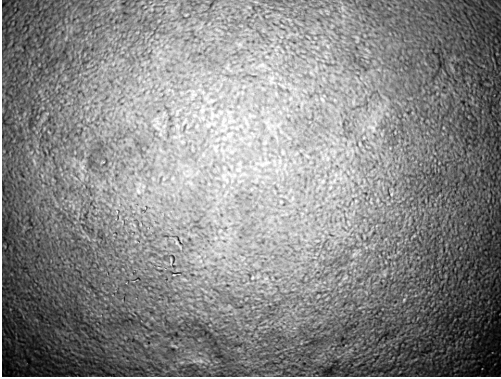

Figure 2. SAEC morphology (4X) just before airlift; 100% confluence in S-ALI™ growth medium
**NOTE:** Check morphology and confluence daily. Allow the cells to maintain confluence until day 3 at which time the monolayer should have the appearance from Figure 2.